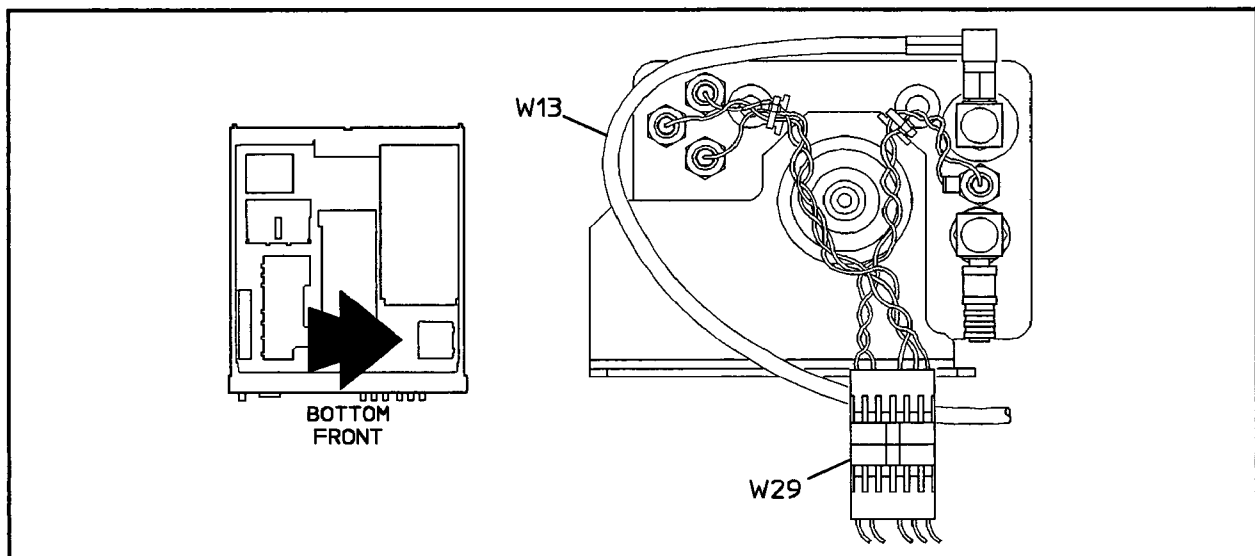

Figure 5-22. Crystal Oscillator Cables
3. In the “Special Techniques” section of this chapter, refer to “Flexible Coaxial Cables,” “Multi-wire Cables,” and Figure 5-22. Then, disconnect the following cables:
- a. W29 (rainbow DC “Osc” with black connector) from the crystal oscillator as shown in Figure 5-22.
- b. W13 (red 10 MHz with unthreaded SMB connector) from the oscillator as shown in Figure 5-22.